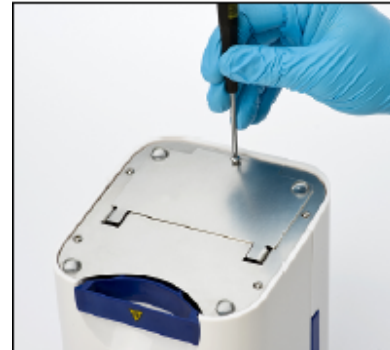

Figure 5: Unscrew the screws at the bottom of the analyzer to access the battery compartment
If you are using batteries to operate the analyzer, unscrew the Phillips screw that secure the metal plate over the battery compartment (Cf. *Figure 5*), open it, insert the six (6) AA batteries into the appropriate slots in the compartment (Cf. *Figure 6*), close the metal plate and secure it with the screw.